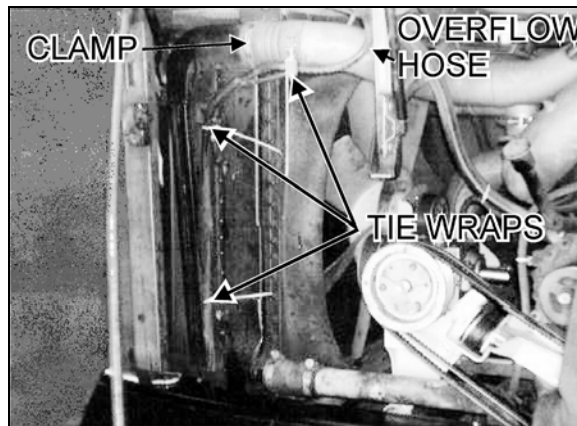

FIGURE 3: OVERFLOW HOSE
3. Loosen top air cooler clamp and cut tie wraps securing antifreeze overflow hose (refer to fig. 3).